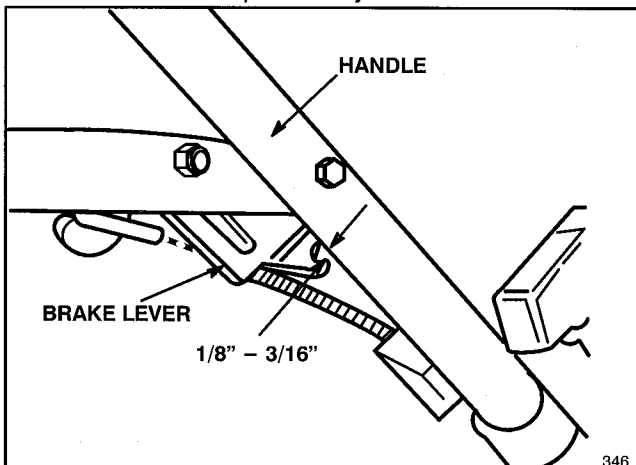

Figure 21
2. CHECK ADJUSTMENT (Fig. 21)—Move control bar toward handle until slack in wire is removed. Gap between brake lever and handle must be $1/8'' - 3/16''$. See step 3 for adjustment.